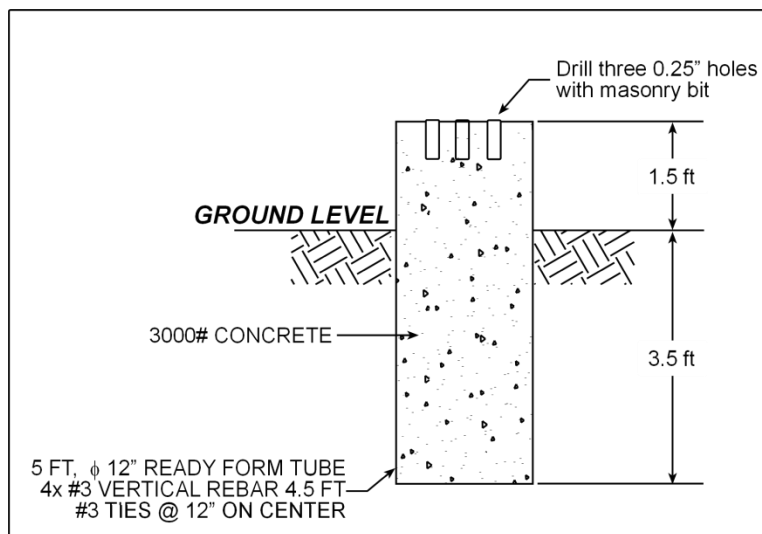

Figure 1. Concrete Mounting Pad
1. Pour a concrete pad as shown in Figure 1. Alternatively, a 2 ft by 2 ft level concrete foundation about 4" deep may be used.